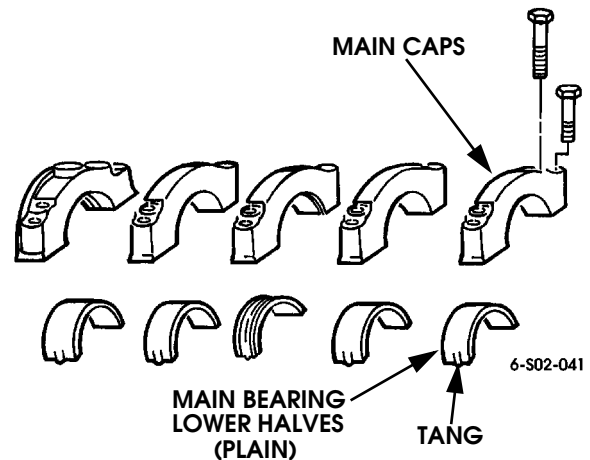

Figure 2-177: Assembling Main Caps and Bearing Lower Halves
4. Install main bearing lower halves in bearing caps (Figure 2-177). Install bearings dry and be sure each bearing locating tang is seated in bearing cap notch. Thrust bearing half goes in #3 main cap.